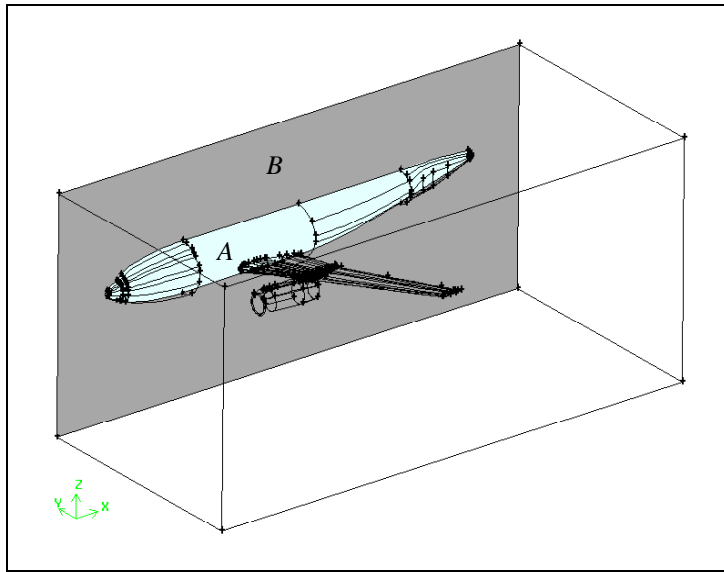

Figure 14-8: Airplane and brick symmetry faces
- b) Select the two symmetry faces (faces A and B in Figure 14-8).